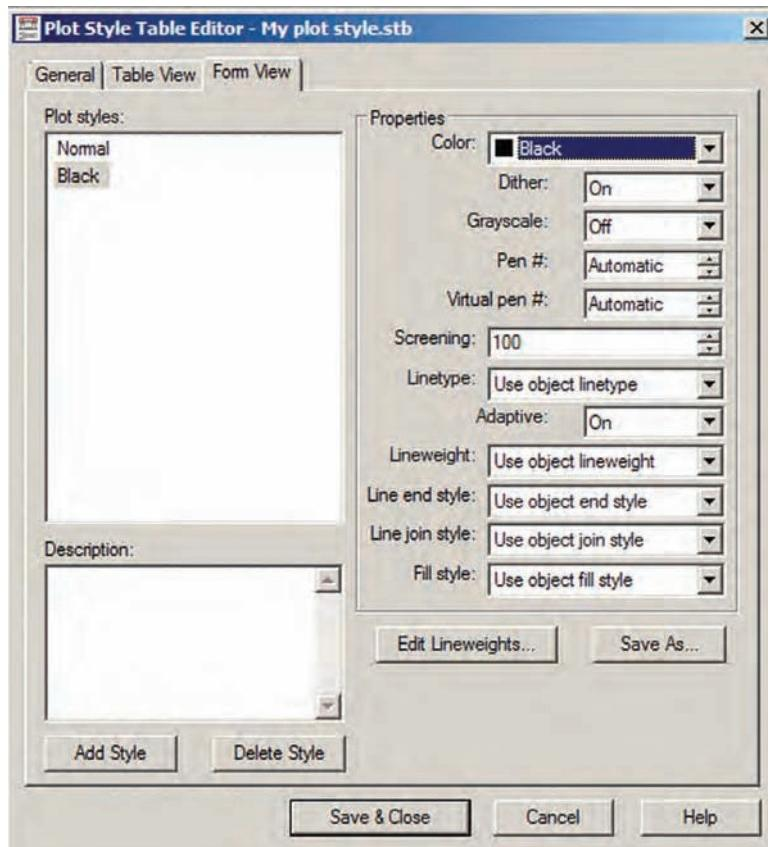

FIGURE 14.3 Creating a Black plot style
8. Open the Color drop-down and select Black (see Figure 14.3).